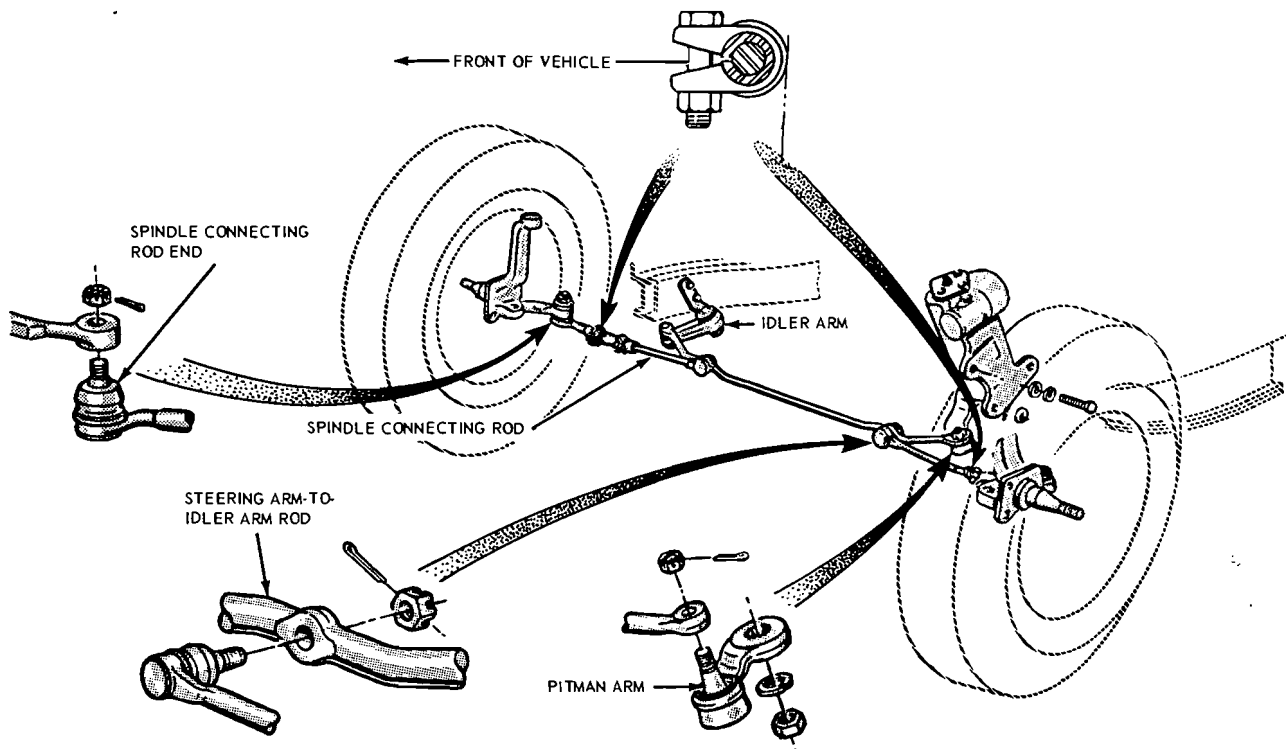

FIG. 21—Typical Manual Steering Linkage—All Vehicles
The manual steering linkage (Figs. 21 and 22) consists of the Pitman arm, the steering arm-to-idler arm rod, the steering idler arm, and the spindle connecting rods (tie rods). **Do not attempt to straighten bent linkage; use new parts.**
6. Check and, if necessary, adjust toe-in (Part 3-1). **After toe-in is checked and adjusted, oil the sleeve clamp bolts and torque them to specification. Add four pounds torque if new bolts are used.** The tie rod sleeve clamps must be installed as shown in Fig. 21, Part 3-1, to prevent interference with the side rail.
A spindle sleeve should be replaced if it becomes worn or damaged (Figs. 21 and 22). **Do not attempt to straighten the sleeve if threaded portion is damaged.**
4. Check and, if necessary, adjust toe-in (Part 3-1). After toe-in is checked and adjusted, oil the sleeve clamp bolts then torque them to specification. The sleeve clamp must be installed as shown in Figs. 21 and 22.
The center link connecting the Pitman arm and the idler arm is non-adjustable and is provided with tapered holes to accommodate the ball studs (Figs. 21 and 22). The link should be replaced when damaged or when worn at the ball studs.
2. Remove the two cotter pins and nuts retaining both spindle connecting rod ends to the steering arm-to-idler arm rod (Fig. 21).
1. Raise the vehicle and remove the cotter pin and nut attaching the idler arm to the center link (Figs. 21 and 22).